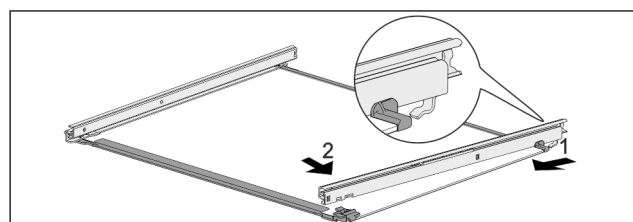

Fig. 116 Glass shelf with rails
- Hook in rail at the back. Fig. 116 (1)
- Hook in rail at the front. Fig. 116 (2)